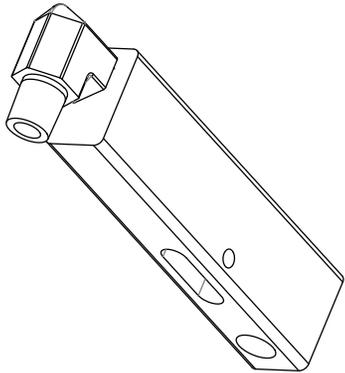

FIGURE 3
6. Apply thread sealant to elbow and attach it to the top of manifold. Elbow must be parallel to long side of manifold and directed toward the slot. See **FIGURE 3**.